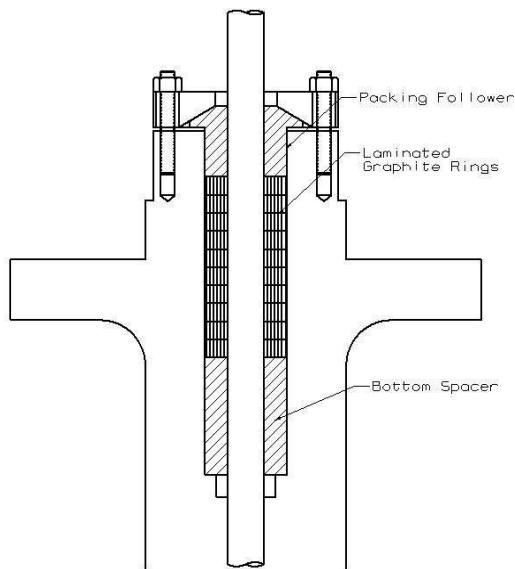

Figure 6 - Installation Sequence
1. Place metal ring in stuffing box making sure it bottoms in box followed by spring and second metal ring. Install bottom Teflon adaptor chevron, four Teflon packing chevrons and top Teflon adaptor chevron in accordance with Fig. 6.
(See Fig. 6, 6A, 7 and 9 in Appendix)
(See Fig. 6 and 6A in Appendix)